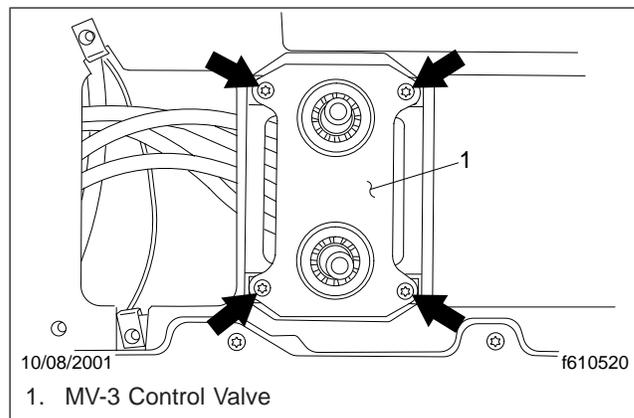

Fig. 3, Control Valve Screws
7. Remove the four screws that attach the valve to the dash-panel frame assembly; see Fig. 3. Remove the valve far enough to access the air line connections on the back.
15. Install the valve and tighten the four mounting screws; see Fig. 3. Tighten the screws 25 to 40 lbf-in (280 to 450 N·cm).